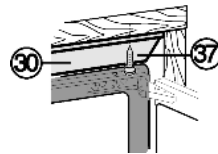

Fig. 34
- ▶ Fasten the equaliser trim *Fig. 34 (30)* to the ceiling of the unit from underneath using two screws *Fig. 34 (37)*.